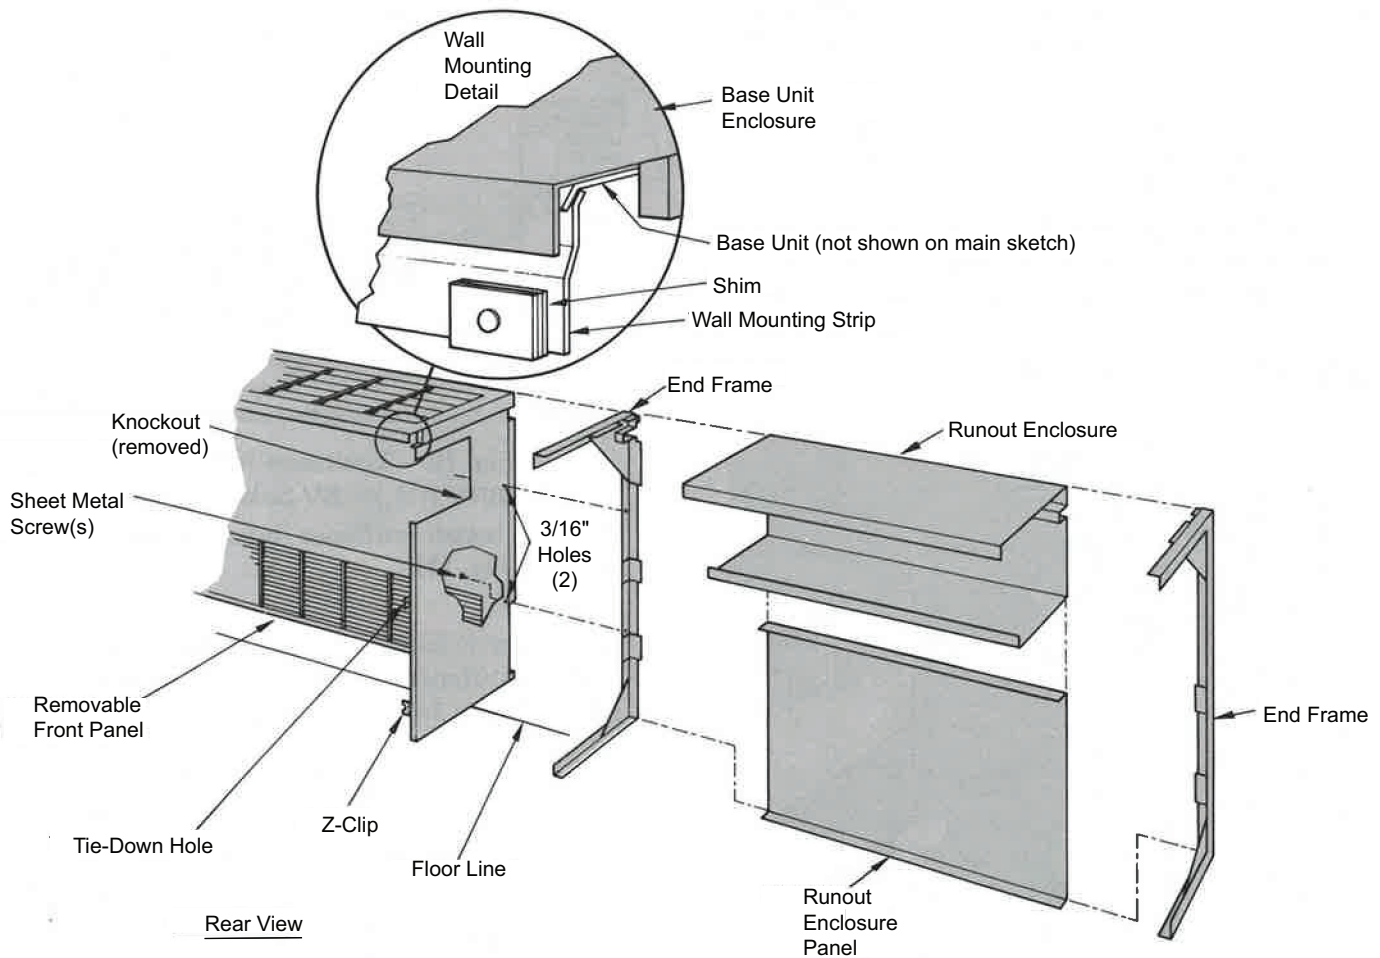

Fig. 10 — Column-to-Column Enclosure Arrangement
1. Drill two 3/16 in. holes for attaching runout. See Fig. 10.